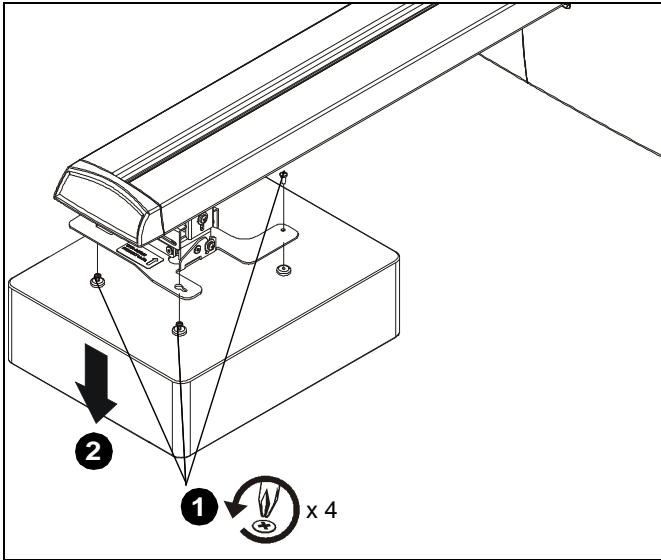

Figure 1
1. Hold projector while loosening four Phillips screws holding projector to the short throw wall mount interface bracket. (See Figure 1)